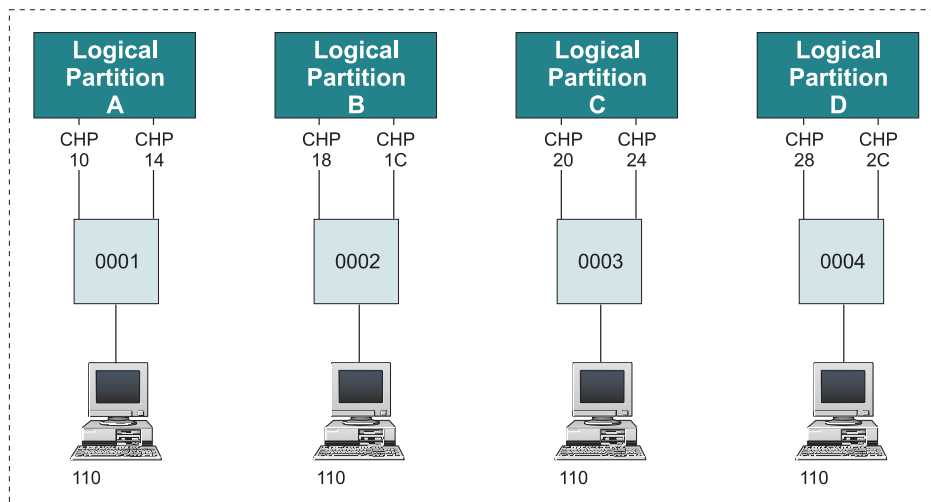

Figure 18. Duplicate device numbers for console
If 8 or less channels attach to the device, this method of defining the IOCP input provides greater flexibility because it allows you to move CHPIDs from one LP to another and eliminates possible conflicts (see Figure 18 on page 55).
Figure 18 shows another example of a logical partition configuration in which the device number for a console (110) is duplicated for all four logical partitions.